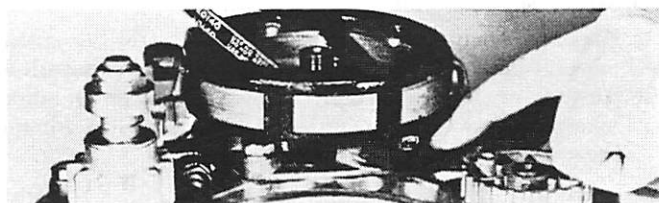

Figure 50. Magneto Timing Belt, 4-Cyl. Models
1. Magneto timing belt (Figure 50) should be given careful consideration when being removed or installed.
4. Keep in full shape, as shown in Figure 50, or in box which allows large bend.